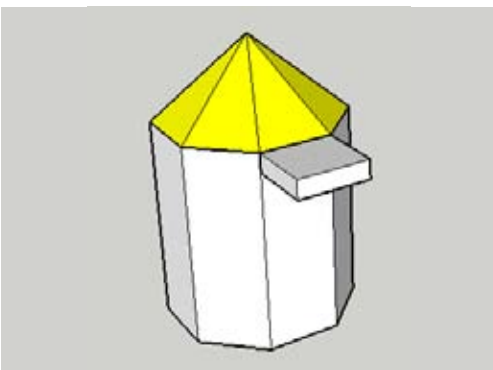

Figure 5-78
5. On one of the vertical faces, draw a thin rectangle at the top and pull it out (Figure 5-78).